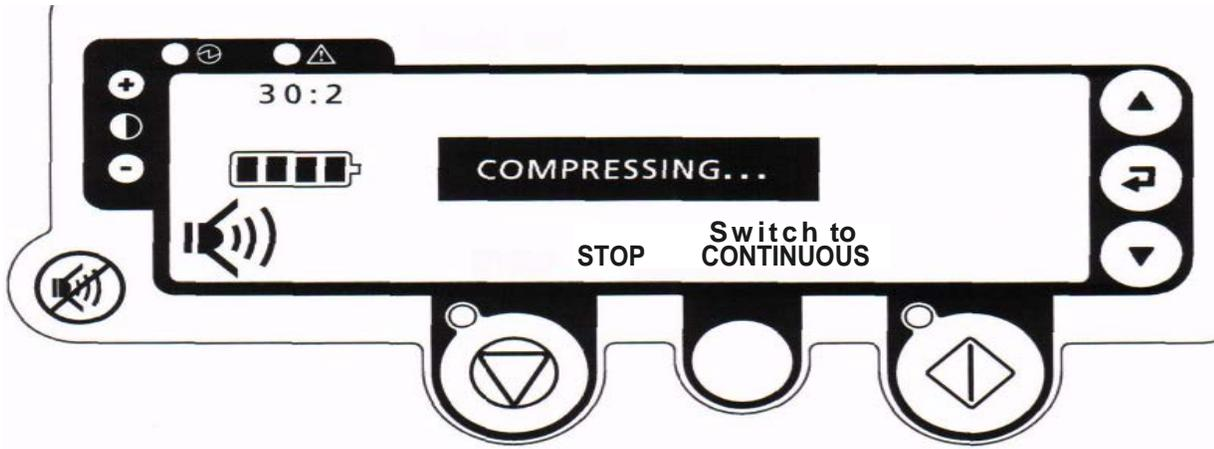

Figure 3-11 Chest Compression Display Panel Screen
4. After the 3 second verify patient alignment pause is complete, compressions will automatically begin. You may press the Start/Continue button to immediately initiate compressions ahead of that time. The AutoPulse Platform begins chest compressions (see Figure 3-11).